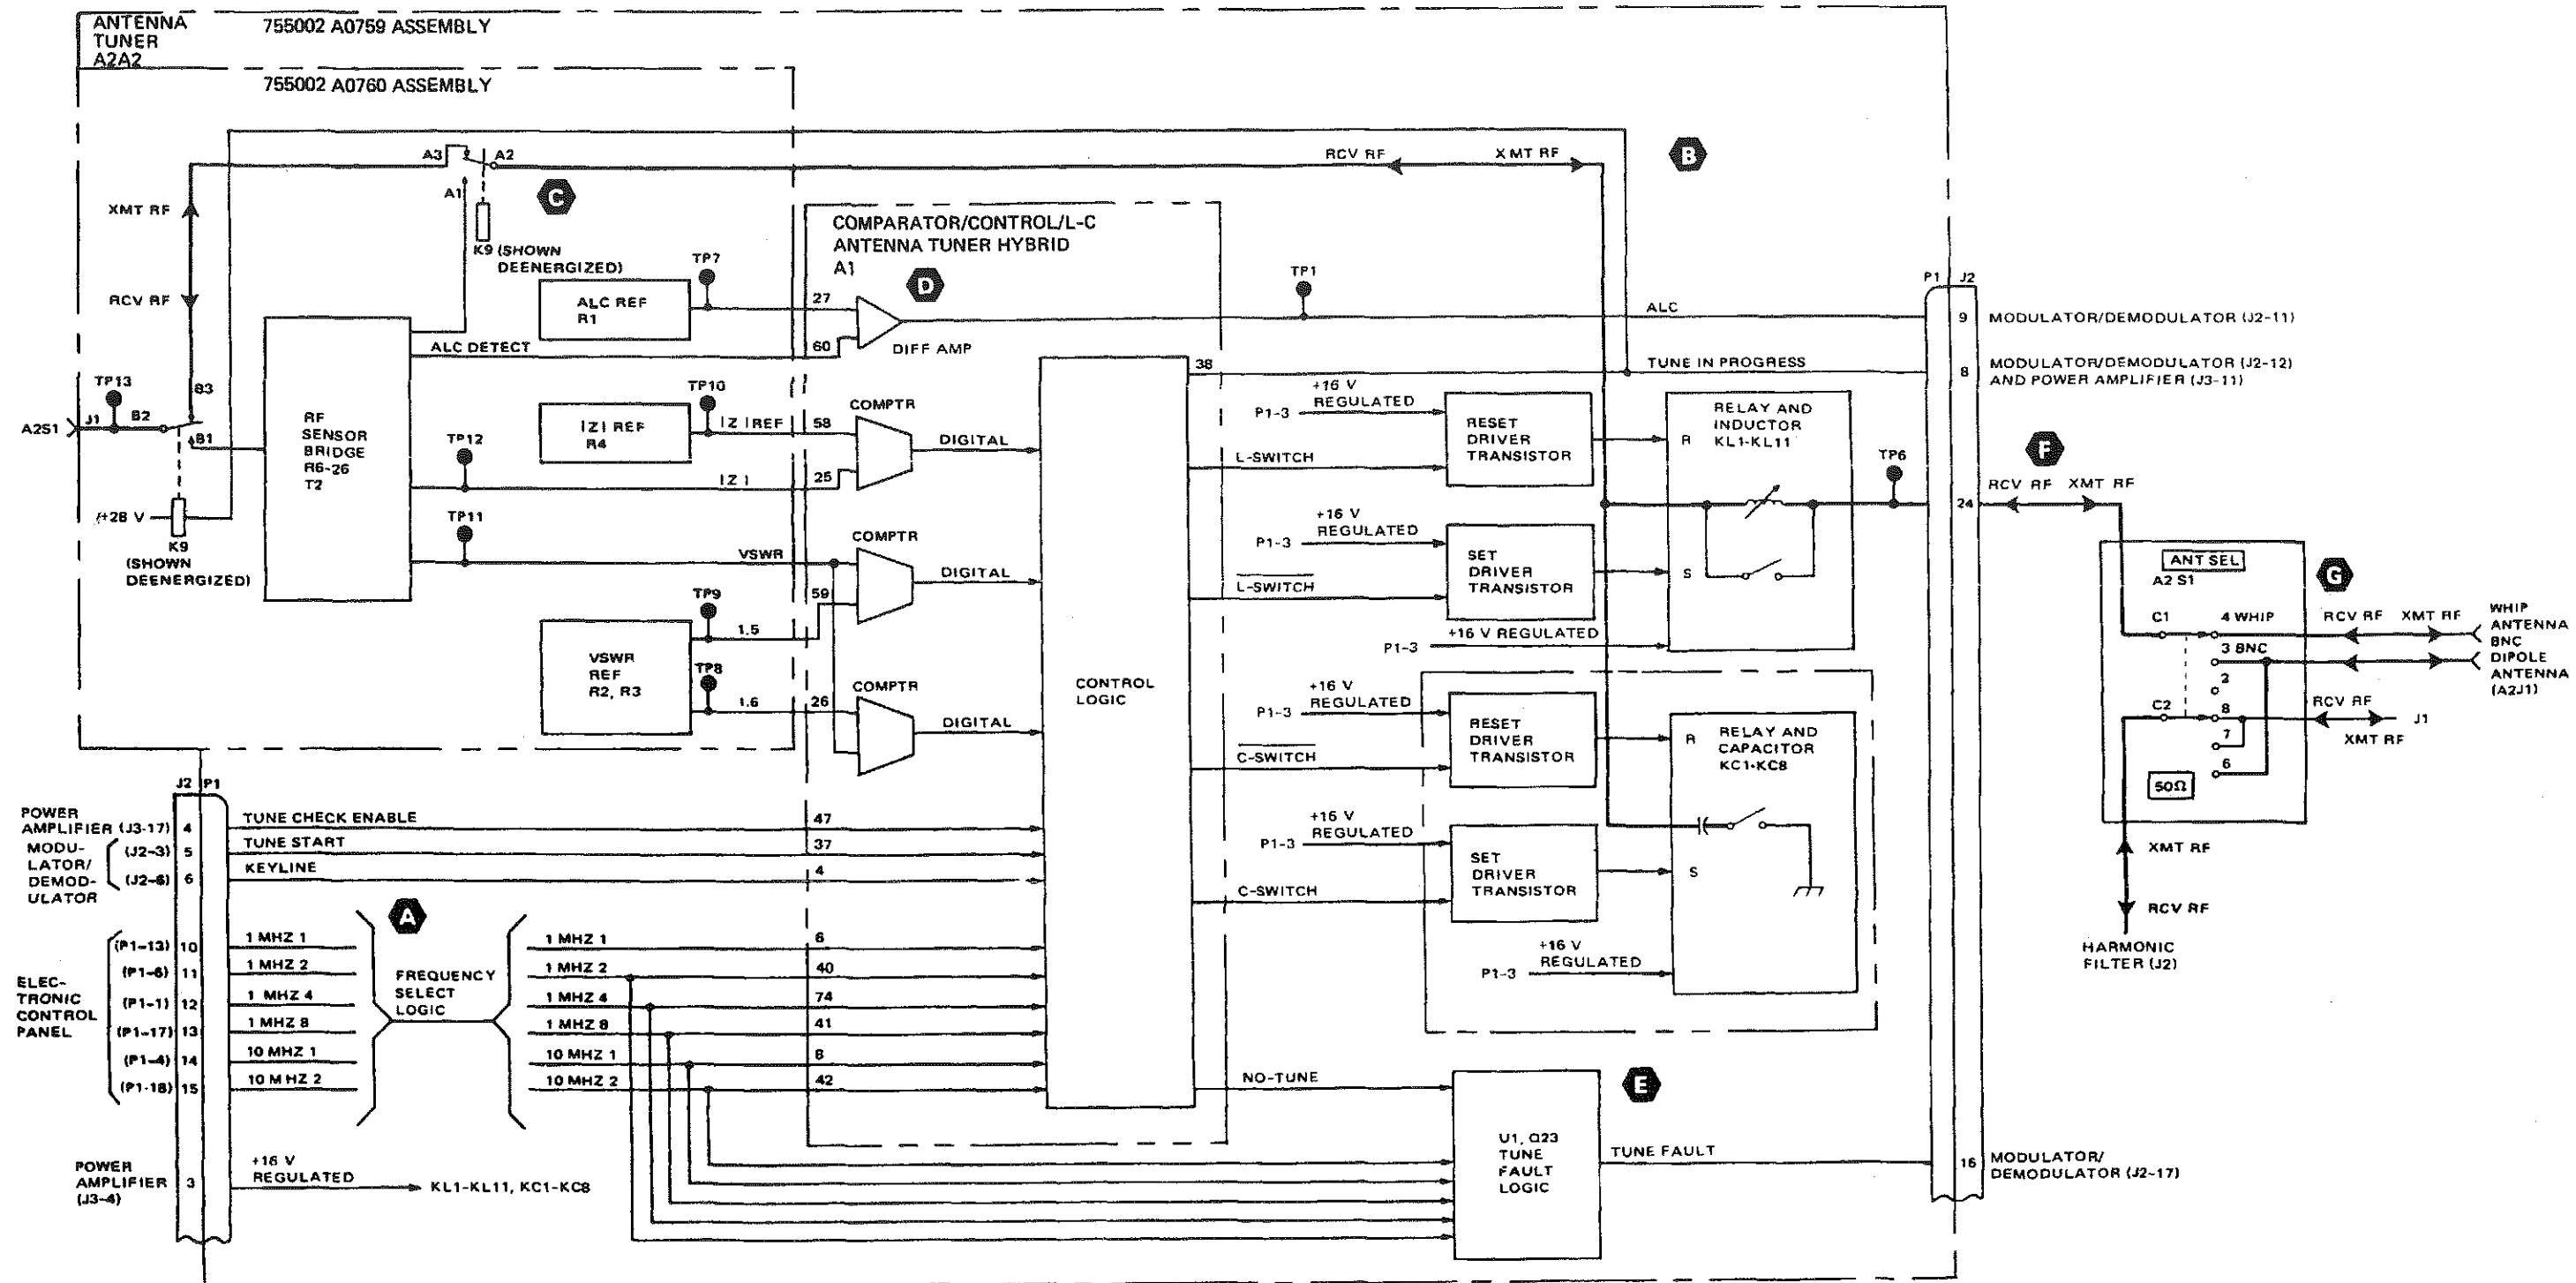

Figure 2-5. Antenna Tuner
**ANTENNA TUNER (1 of 2), fig 2-5**